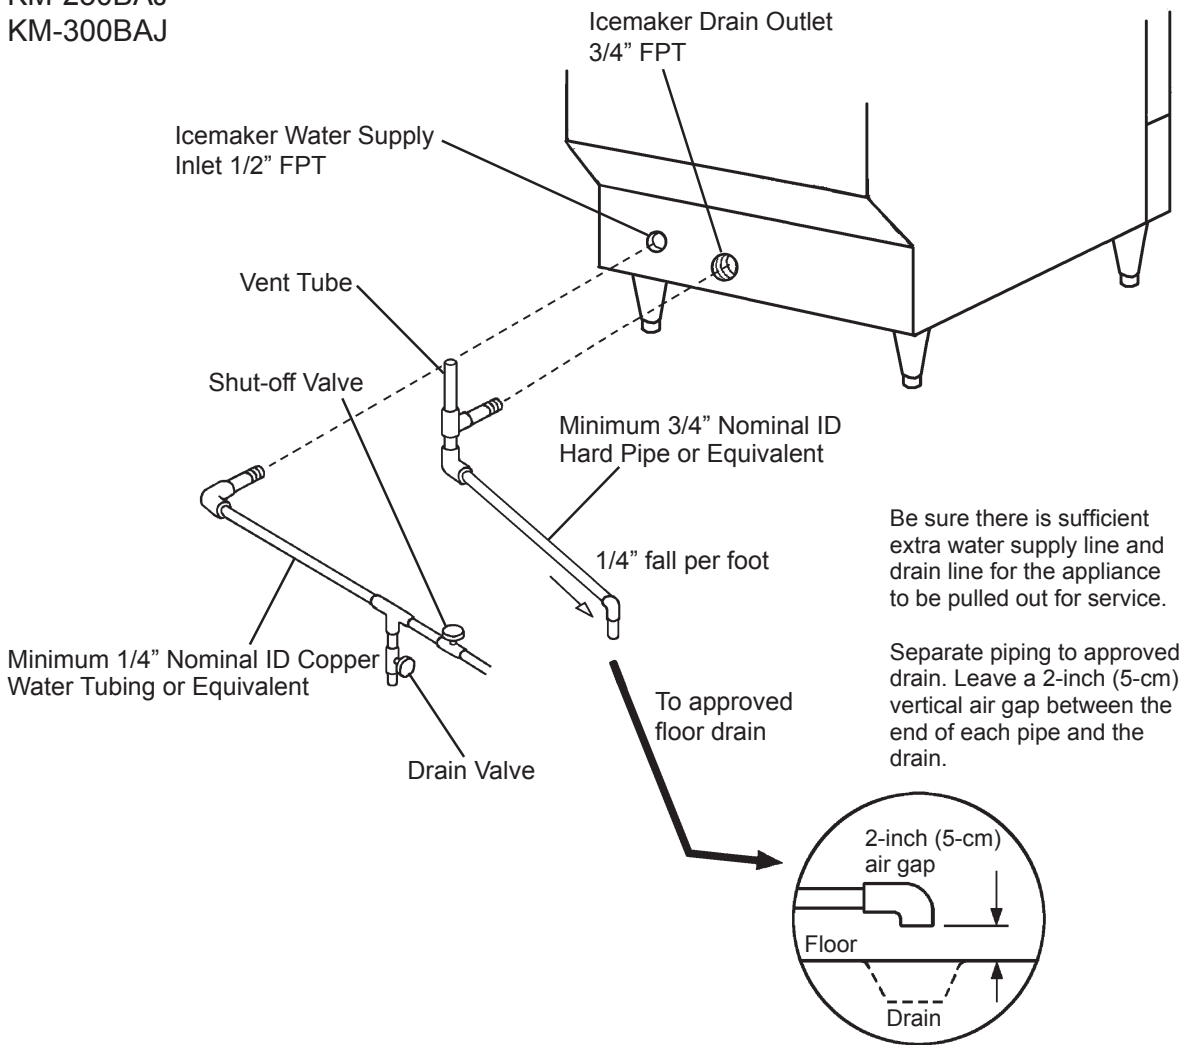

Fig. 4
F. Water Supply and Drain Connections - See Figs. 4 through 6